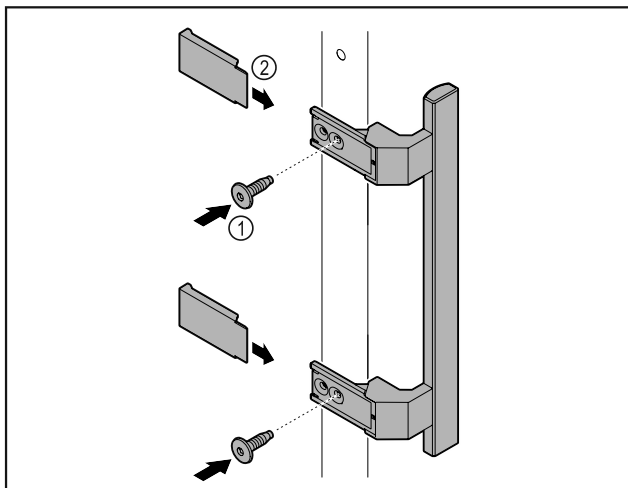

Fig. 64
- Attach handle from accessory kit to the door using the screws Fig. 64 (1) supplied.
- Put on cover Fig. 64 (2).